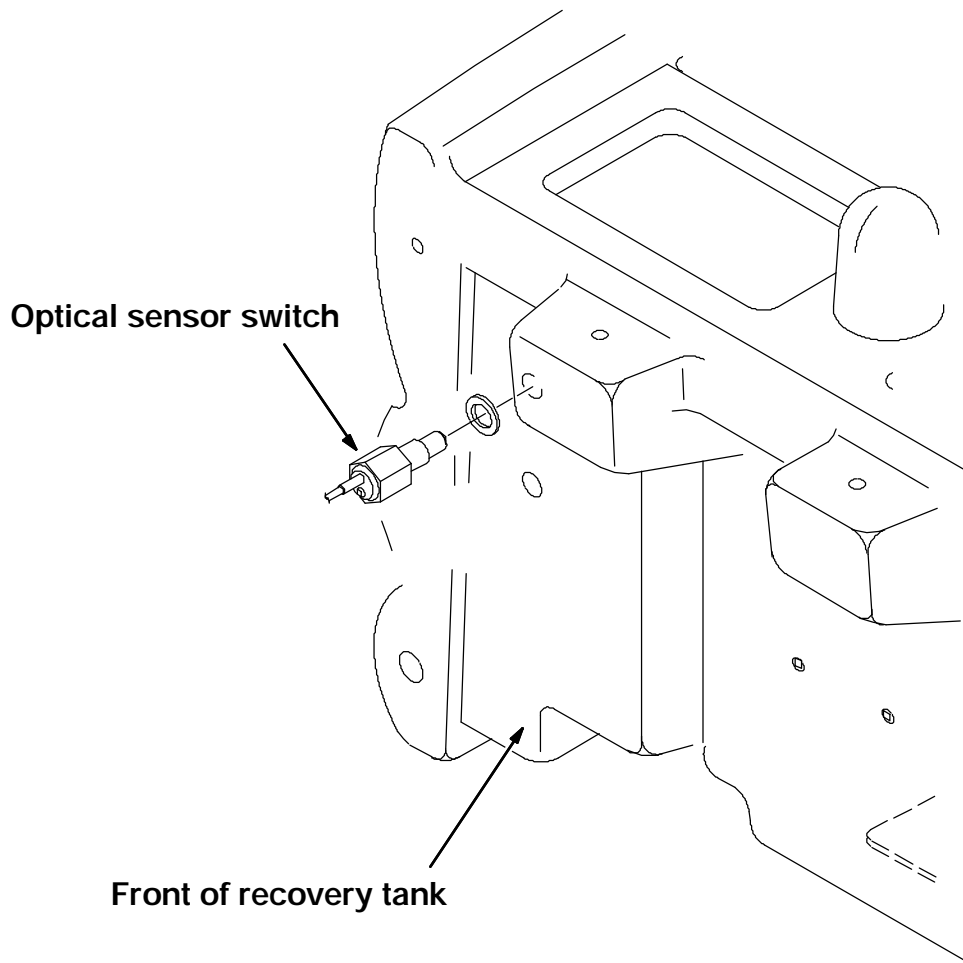

FIG. 2 - Switch Removal
(Refer to Fig. 2)
2. Unplug the optical sensor switch from the main electrical harness. (Refer to Fig. 2)
3. Reach inside the recovery tank and remove the plastic nut holding the optical sensor switch to the tank wall. (Refer to Fig. 2)
4. Remove the steel and rubber washer from the optical sensor switch. (Refer to Fig. 2)
(Refer to Fig. 2 and 3)